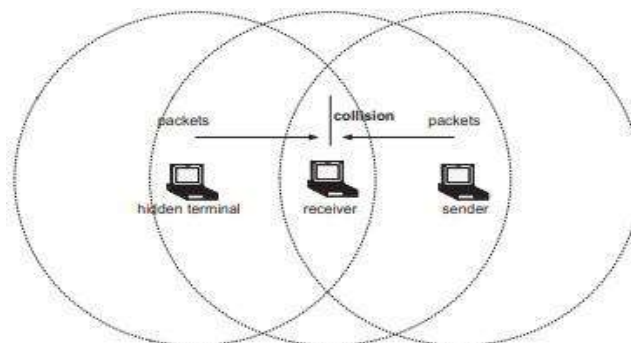

Figure 1.2 Hidden Terminal Problem
- **Hidden Terminals Problem:** Hidden terminals are nodes that are hidden (or not reachable) from the sender of a data transmission session, but are reachable to the receiver of the session. (Figure 1.2)